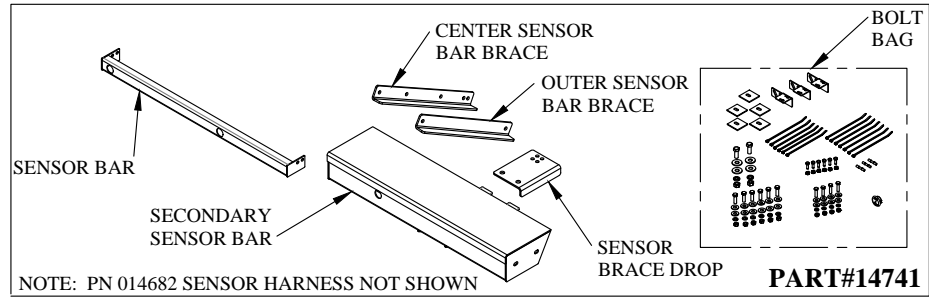

Figure 1: Part identification.
1. **Verify** sensor kit (Figure 1 and Table 1).